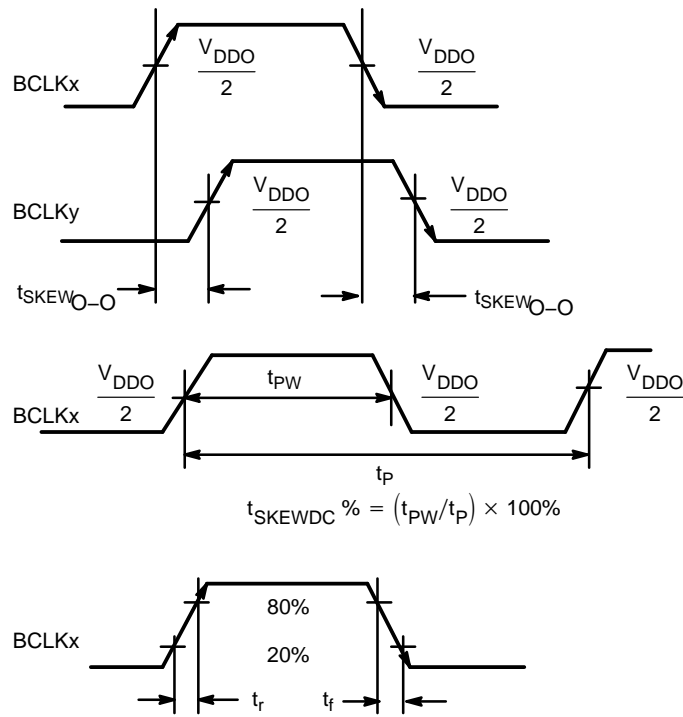

Figure 4. AC Reference Measurement
5. Crystal inputs $\leq F_{max}$. Outputs loaded with $50\ \Omega$ to $V_{DDO}/2$. CLOCK (LVCMOS levels at XTAL1 input) 50% duty cycle. See Figures 4 and 7. See APPLICATION INFORMATION; Crystal Input Interface for CL loading.
5. Crystal inputs ≤ F_{max}. Outputs loaded with 50 Ω to V_{DDO}/2. CLOCK (LVCMOS levels at XTAL1 input) 50% duty cycle. See Figures 4 and 7. See APPLICATION INFORMATION; Crystal Input Interface for CL loading.